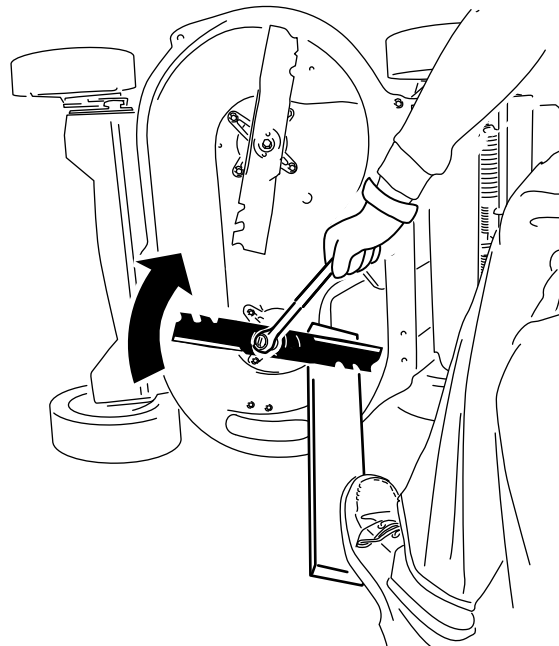

Figure 31
2. Steady each blade with a board and turn the blade bolt clockwise with a torque wrench as shown in Figure 31; torque the blade bolt to **82 N·m (60 ft·lb)**.